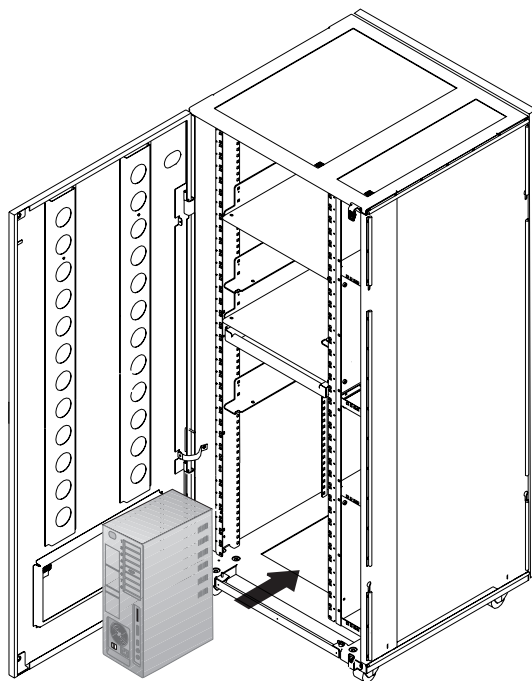

Figure 21. Installing the SP Unit type in the Controller Expansion (Rear Side)
- 7. Slide the Service Processor unit as shown in Figure 21 on page 19.